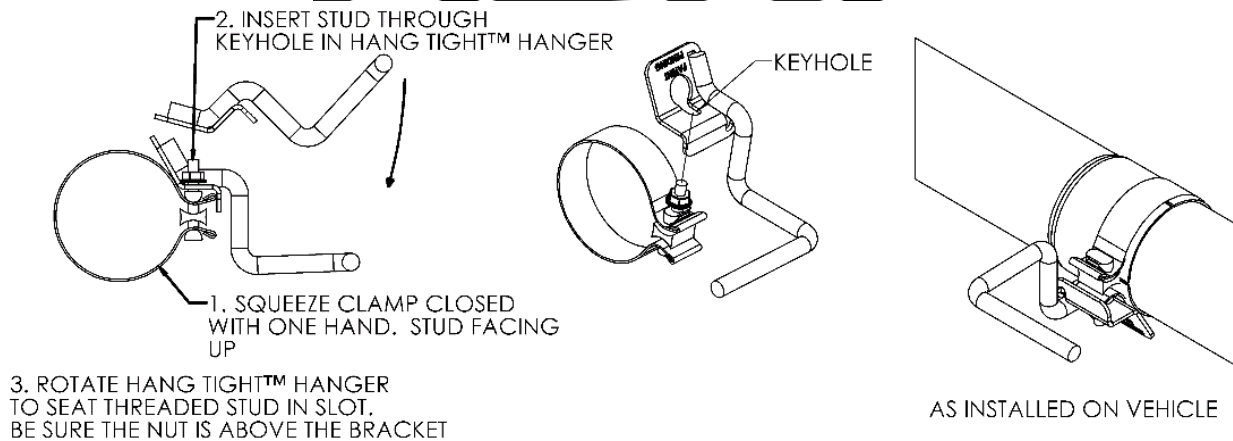

Figure 1
2. Install the **4" to 5" Extension Pipe (46.75")** over the **Down Pipe** securing it with the **4" Band Clamp** and **Front Hang Tight™ Hanger** (See figure 1 for Hang Tight™ instructions). Install the **34" Extension Pipe** onto the **4" to 5" Extension Pipe** securing it with a **5" Band Clamp**. The combination of these two **Extension Pipes** provides the required length to fit a Quad Cab Long Bed truck. These pipes will have to be cut to fit all other vehicles.